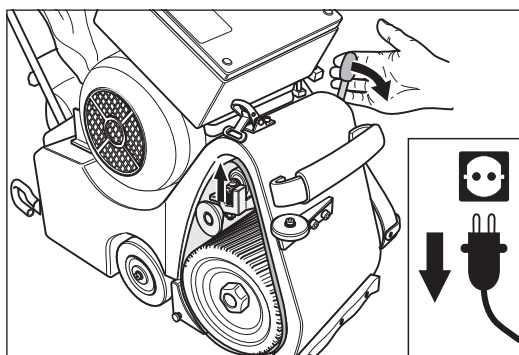

Fig. 12 Tension the sanding belt by lowering the operating lever. Otherwise, damage or injury can occur!
- 12 To tension the sanding belt, press the operating lever of the drive unit downwards (Fig. 12). **Otherwise, damage or injury can occur!**
- **Always** tension the sanding belt before switch on the machine (Fig. 12)!